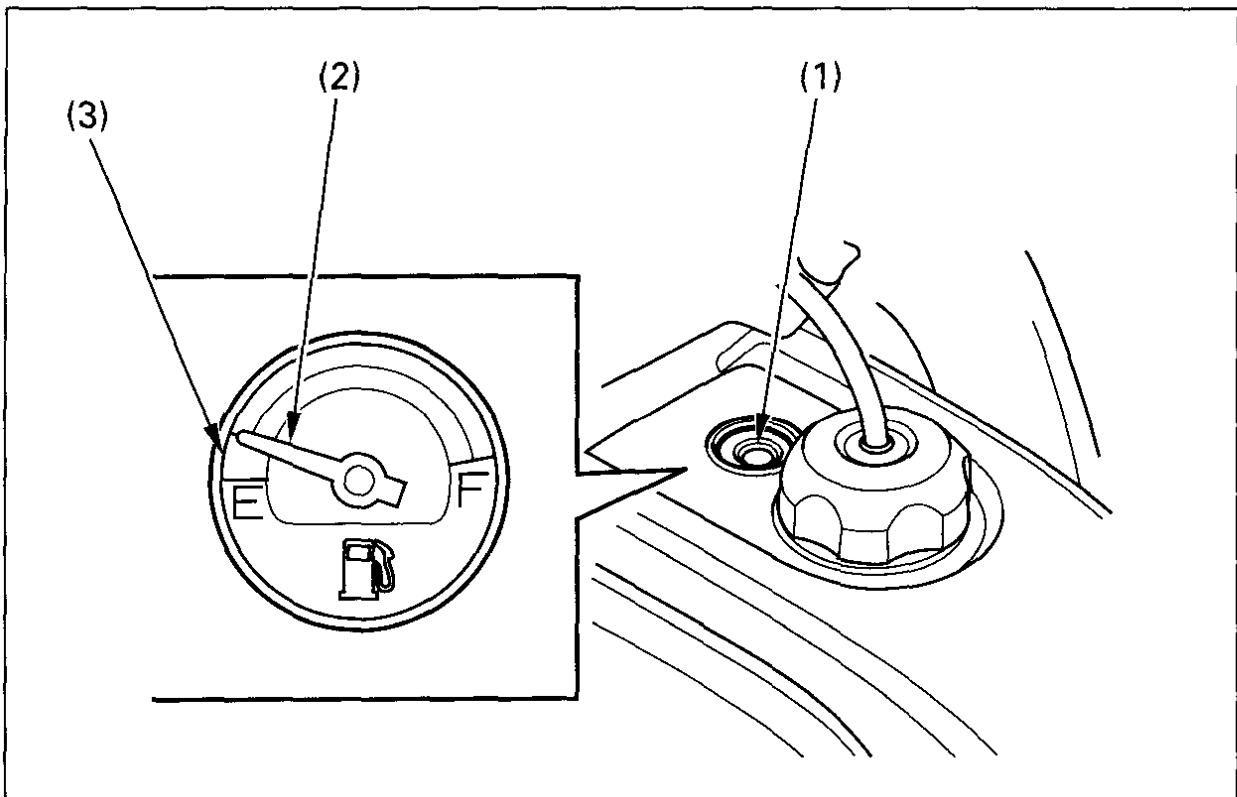

Fig. 2-25 (1) Fuel gauge
The fuel gauge (Fig. 2-25) (1) shows the approximate fuel supply available. At F (Full), the fuel tank capacity including reserve is: